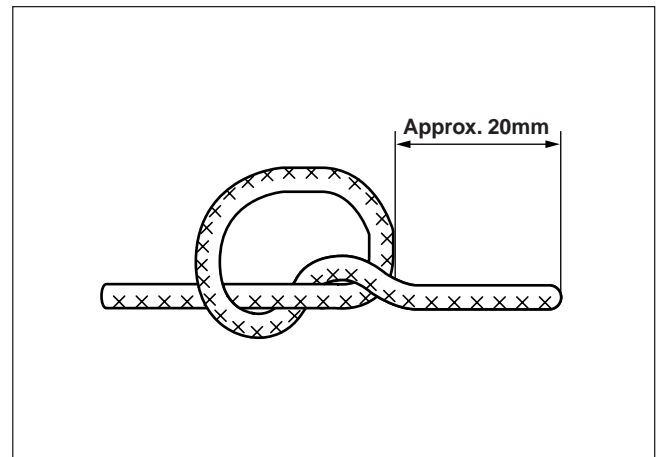

Fig. 12-8
- 2 Tie a knot in the rope end . (Fig. 12-8)